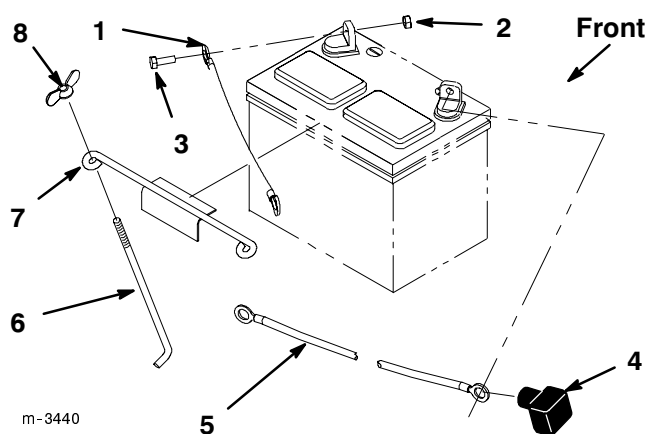

Figure 39
3. Disconnect the negative (black) ground cable from the battery post (Fig. 39).
4. Lift the red rubber cover up on the positive cable. Disconnect the positive cable (red cover) from the battery post (Fig. 39).
5. Remove the battery hold down rods (Fig. 39). Lift battery from tractor
6. Install the battery into the chassis (Fig. 39).
7. Secure battery in chassis with hold down rods and wing nuts (Fig. 39).
8. Using the bolt and locknut, connect the positive (red cover) cable to the positive (+) battery post (Fig. 39). Slide the rubber cover over the battery post.
9. Using the bolt and locknut, connect the negative (black) cable to the negative (-) battery post (Fig. 39).